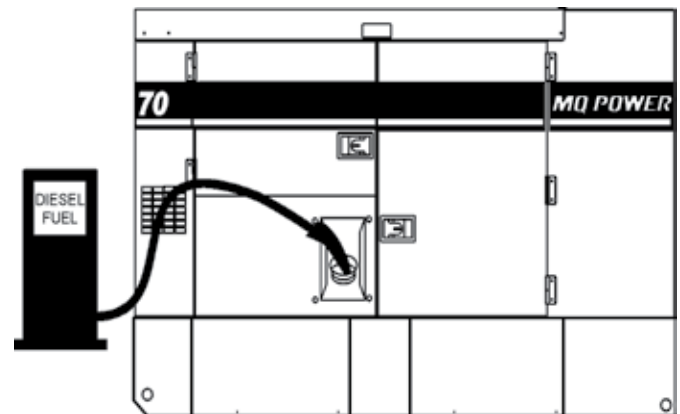

Figure 31. Fueling the Generator
2. Open cabinet doors on the “right side” of the generator (from generator control panel position). Remove fuel cap and fill tank (Figure 31).